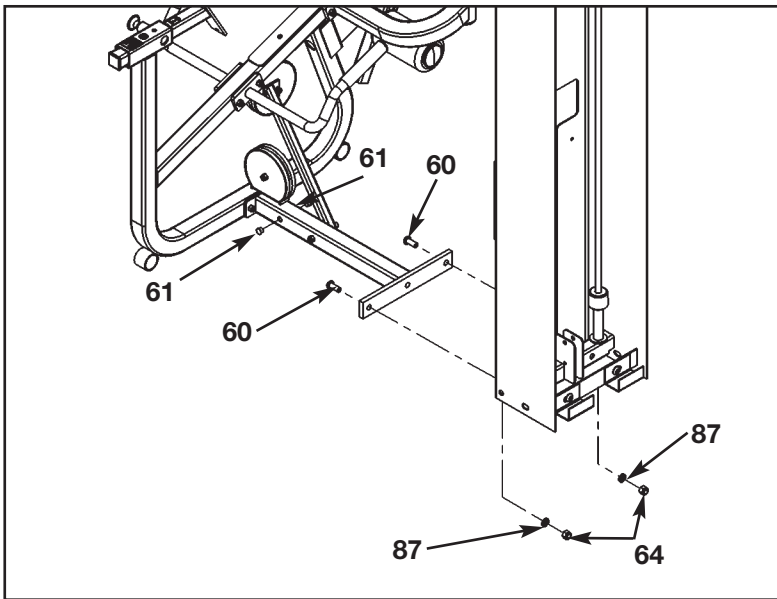

Figure 11
- E. Install hole plugs (#61) to the Leg Extension/Leg Curl Assembly (Modular/Tandem configurations only). See Figure 11.